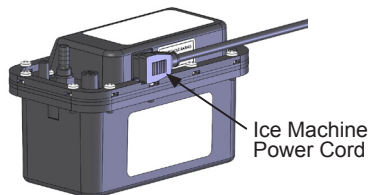

Figure 9
5. Disconnect the ice machine power cord from the drain pump (Figure 9).